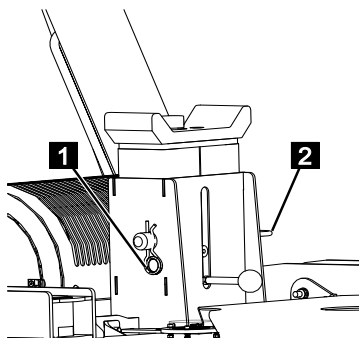

Fig. 111
3. Pull the spring cotter pin (Fig.111/1) out of the fastening bolt (Fig.111/2).
4. Pull out the fastening bolt (Fig.111/2).